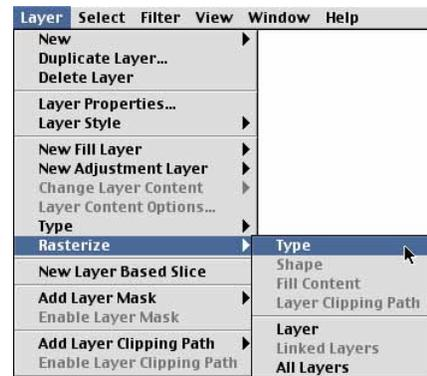

figure 7.
8.) If you choose to provide us with a PSD file please make a copy of your original and then rasterize all the font layers in the copy that you send us. By rasterizing the fonts they will not be needed on our end to print the file correctly. This also eliminates Mac vs. Windows file conversion issues with regard to fonts. (figure 7) **Its important to make a copy of your original file since once you rasterize the font layers they will no longer be editable. You will need the original file with unrasterized type layer to make future type changes.**